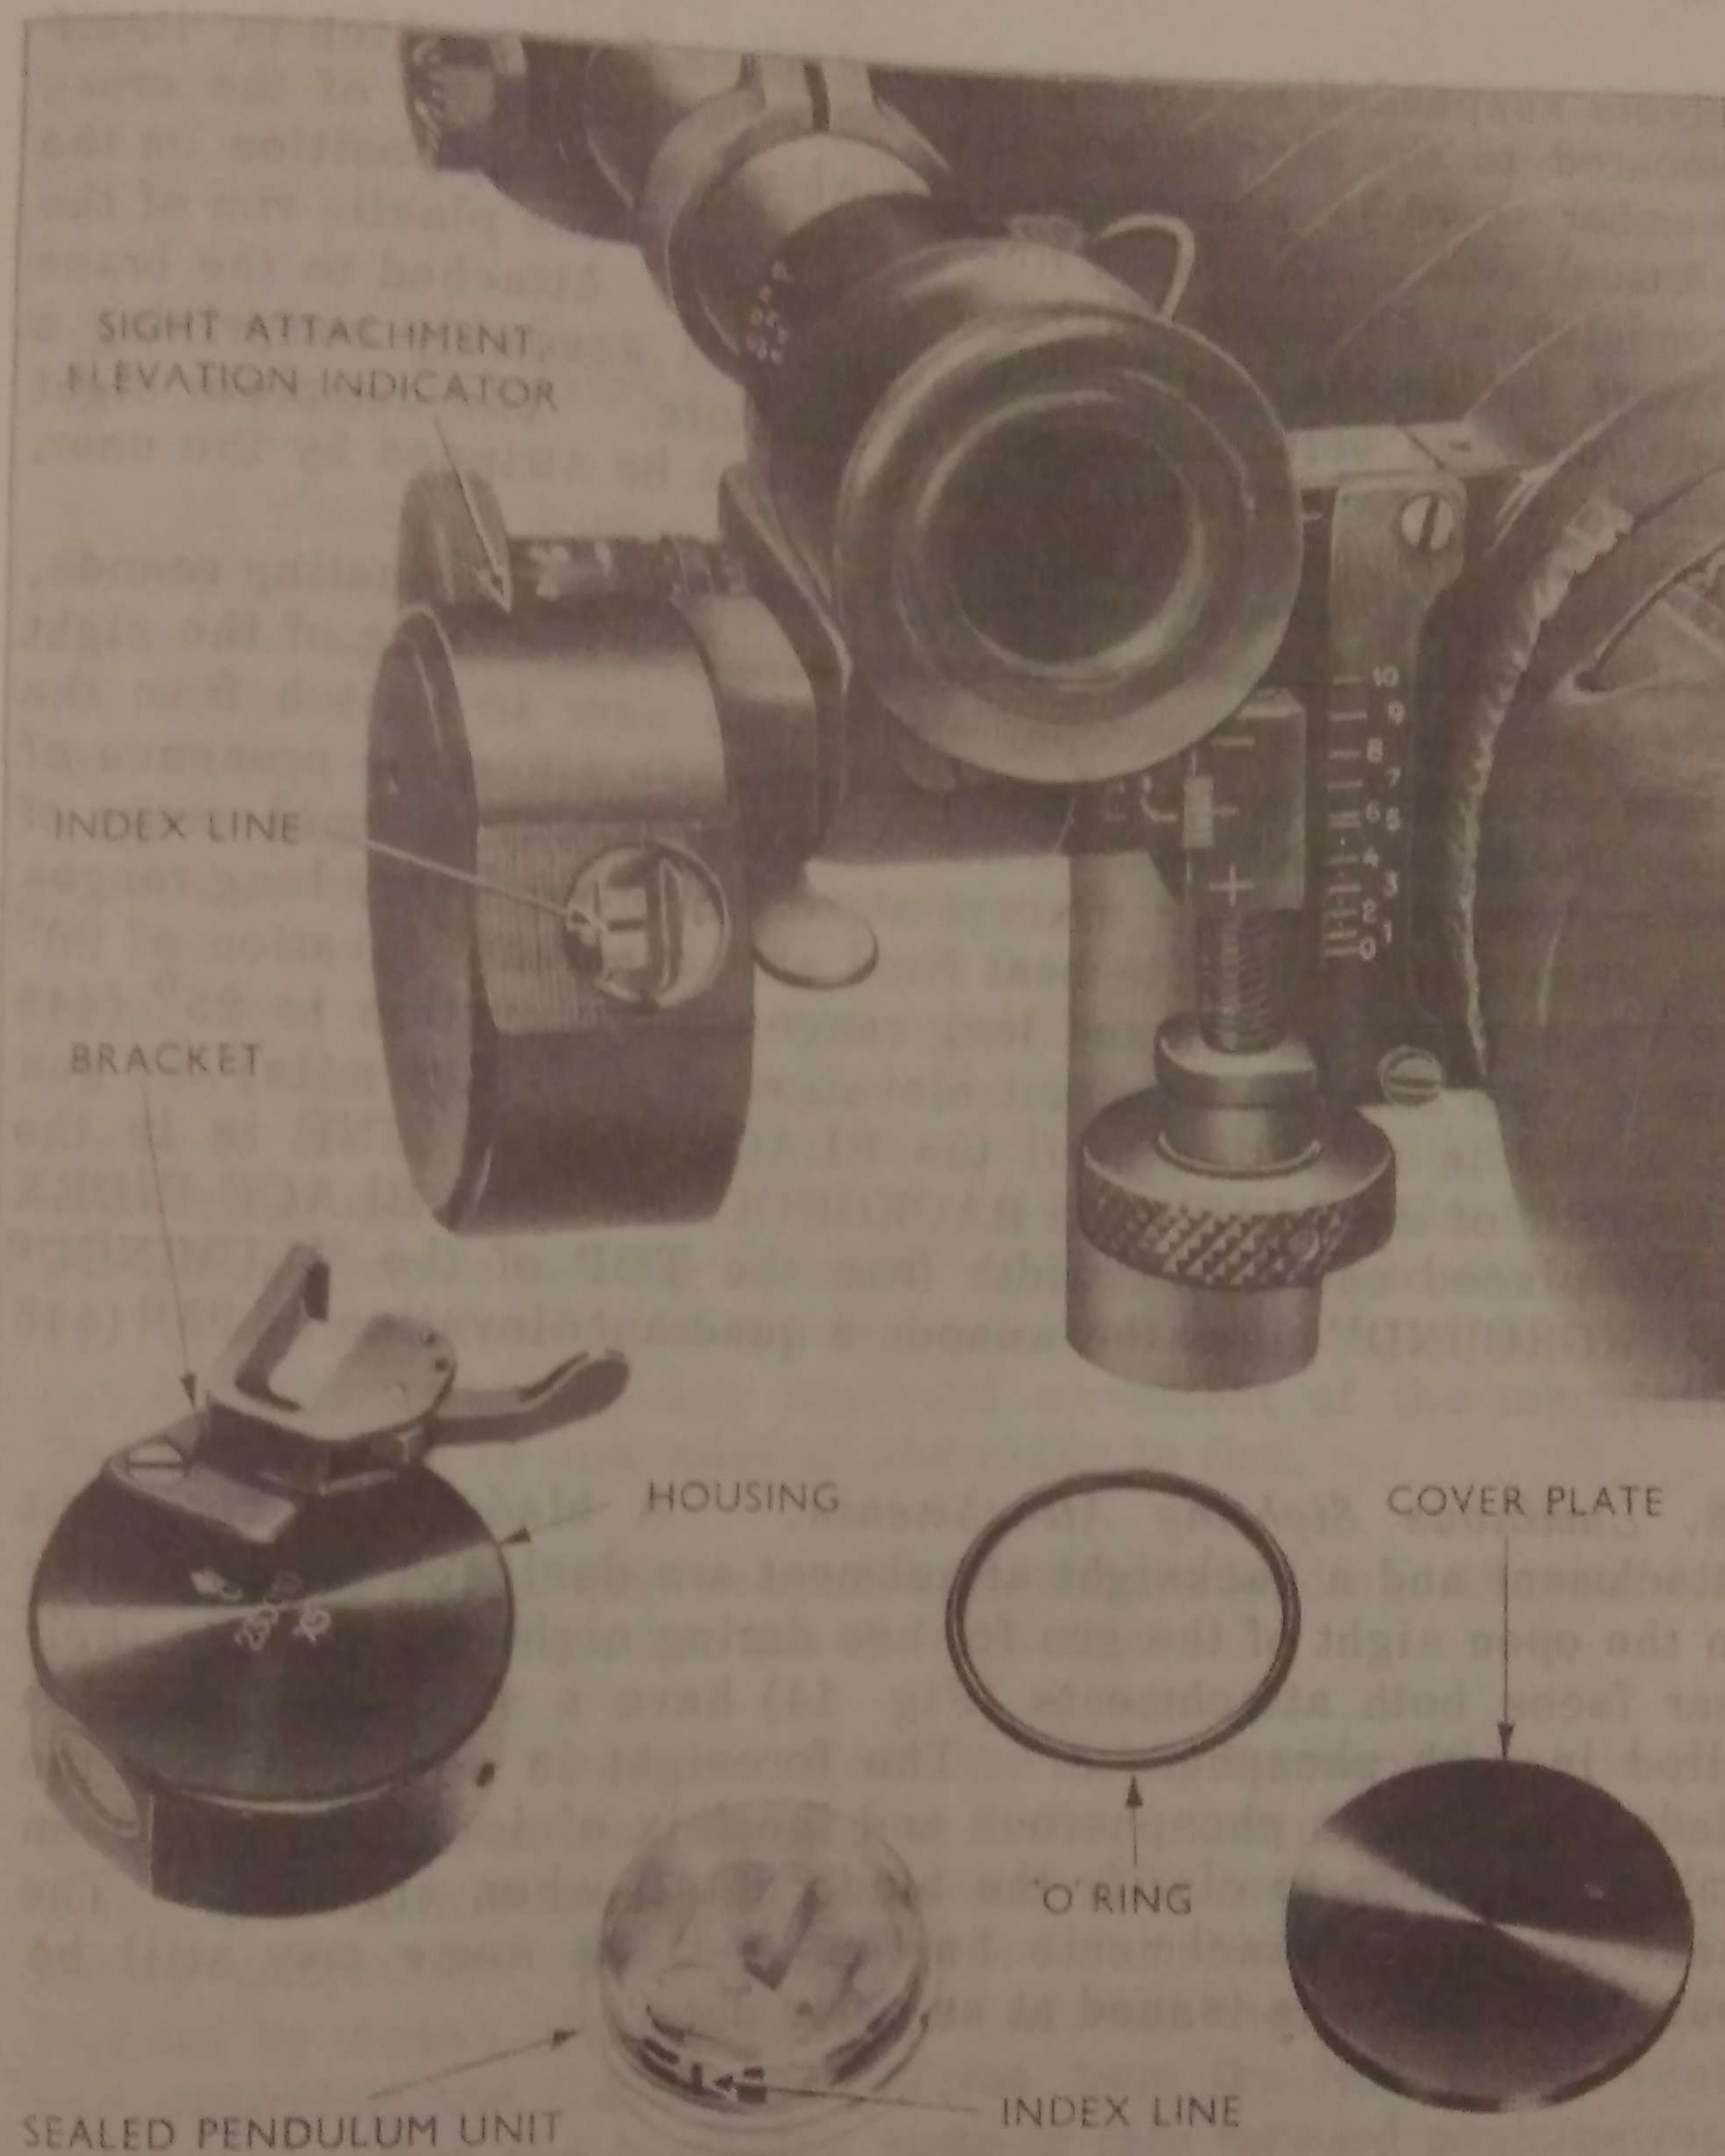

Fig 15 Sight Attachment, Elevation Indicator
- (1) *White*. The thick white line is the index line and is centred against the required reading on the range scale when operating in temperatures of minus 10 degs. C. to plus 30 degs. C.
35. *Sight Attachment, Elevation Indicator* (Fig 15). The sight attachment consists principally of a cylindrical light alloy housing 2 1/4 inches in diameter and one inch thick. A bracket, secured to the housing by two screws, is used for attaching and locking the sight attachment to the detent plunger housing of the Sighting telescope. A small protective glass window fitted into the housing, enables the user to view the black index line against a self luminous background. The sight attachment weighs approximately 7 oz.